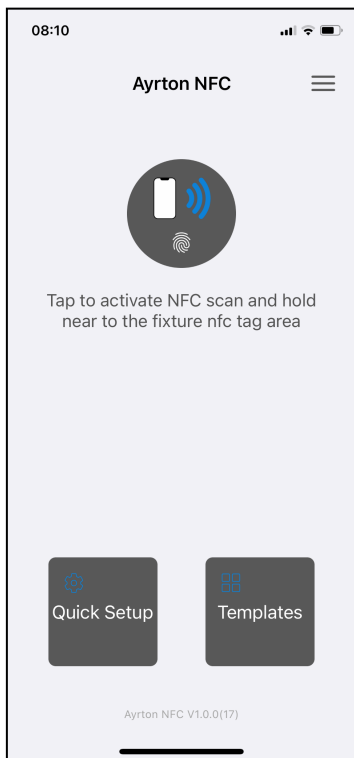
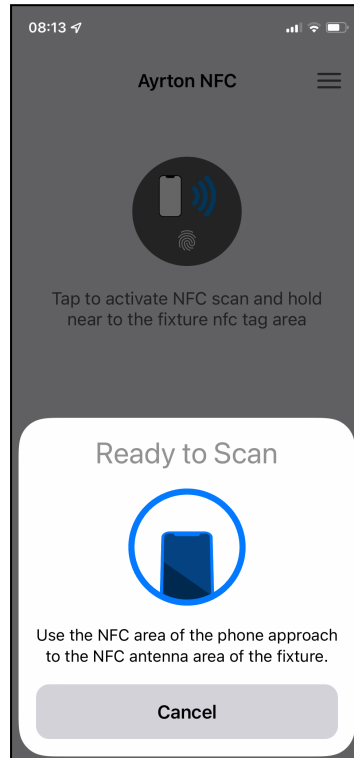
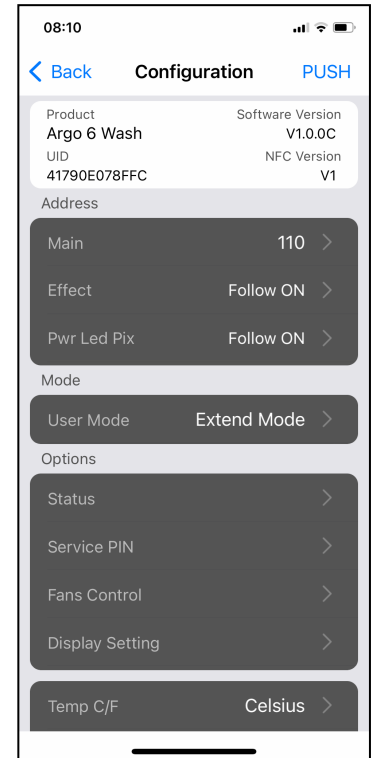

Figure 1
Figure 2
Figure 3
1) Open the Ayrton NFC App (as shown in Figure 1), tap the button to activate NFC scan (Figure 2), place the NFC scan area of your mobile phone close to the NFC tag area of the fixture, it will show the setting and configuration page after reading successfully (Figure 3).